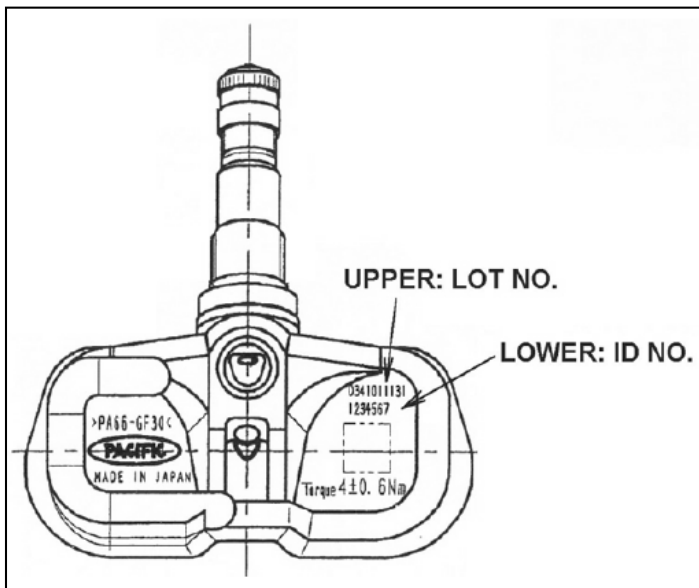

Figure 6a
- e. Insert the tire pressure monitor valve sub-assembly into the valve installation hole from the inside of the rim and bring the valve stem to the outside. Insert the tire pressure monitor valve sub-assembly so that "Manufactures" mark is visible. See Figures 6a and 6b.